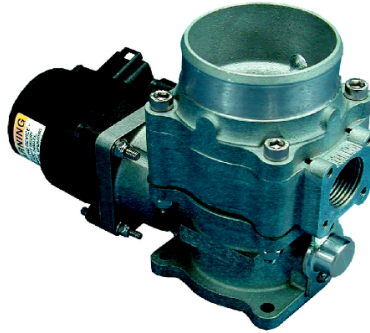

Figure 1-1:
- Figure 1-1..... Woodward Series with Fixed Venturi Mixer
GM engines may be fitted with a consistently variable venturi mixer or a fixed mixer system. See Figure 1-1 below.